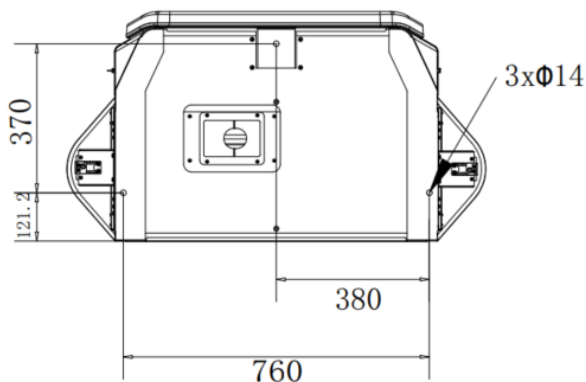

Fig. 5-3 Fixing dimension diagram
- The screw frame must be pre-embedded when making the foundation as shown in Fig. 5-3, three M12×100mm bolts must be pre-embedded, and the height exposed to the ground is $30\pm3\text{mm}$.